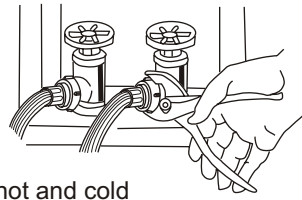

Figure 1
1. Respectively attach the water inlet hoses to the hot water faucet and the cold water faucet. Using pliers, tighten the coupling. ( As figure 1)